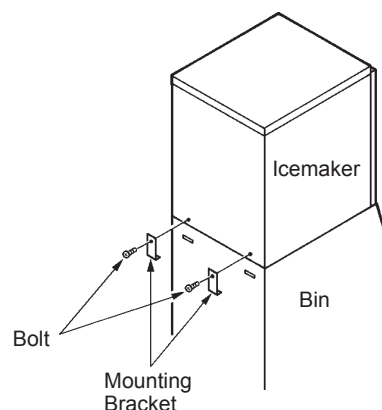

Fig. 6
6) Secure the icemaker to the storage bin, by using the two mounting brackets and two bolts provided. See Fig. 6.